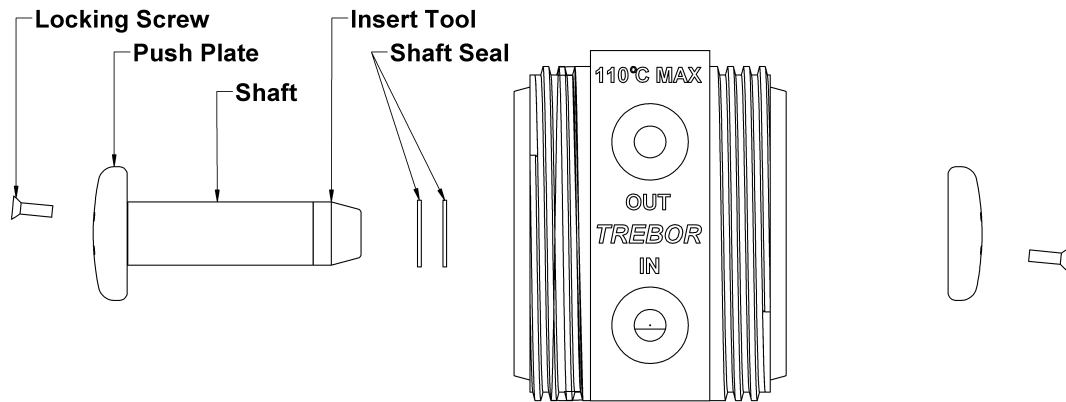

Figure 4-4
- Place shaft insert tool onto shaft and insert shaft into bore (figure 4-4).